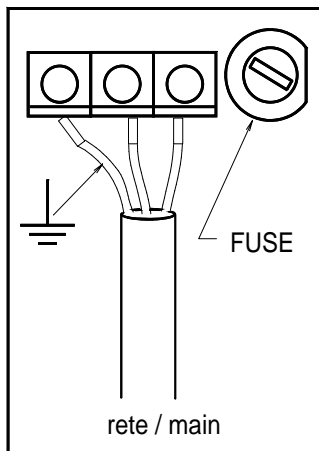

Fig. 6 Power supply
a) by connecting the power supply cable grounding wire, if there is one, to the appropriate terminal on the left (see fig. 6);
On the power supply terminals (Fig. 6) is indicated the voltage:
The fuse in the MC 106 A and in the MC 106 C is set by side of power supply terminals (see fig. 6).